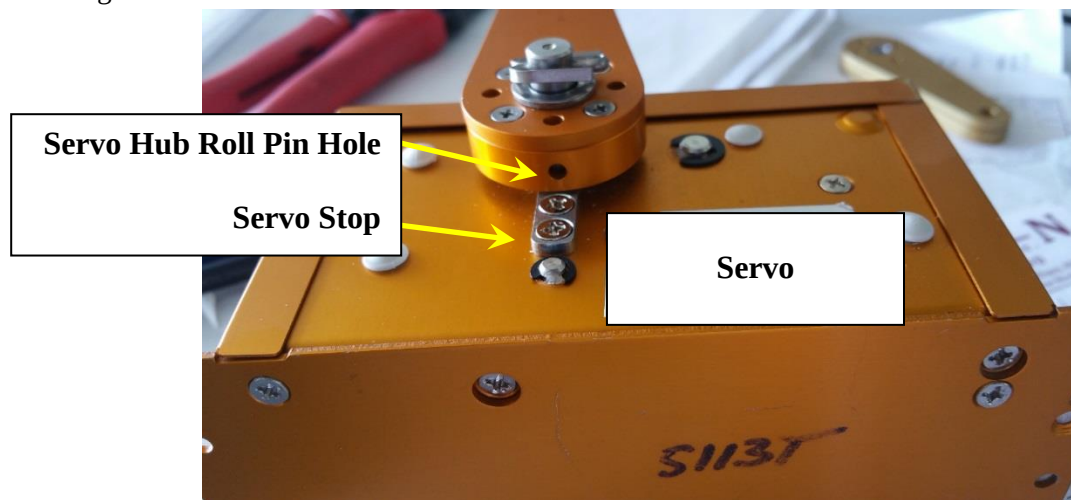

FIGURE 2-3 SERVO HUB ROLL PIN ALIGNMENT
2. With the servo hubs in the center of travel align the servo arms to face the top of the servo and secure the servo arms with the M3 screws supplied in the hardware kit. Refer to Figure 2-3.
For both servos; the servo hub roll pin hole must be aligned with the servo stop as shown in Figure 2-3 before attaching the crankarm to the hub.
5. Install the NAS1149F0563P washer on the hub and MS24665-302 cotter pin through the hub hole. Refer to Figure 2-3.